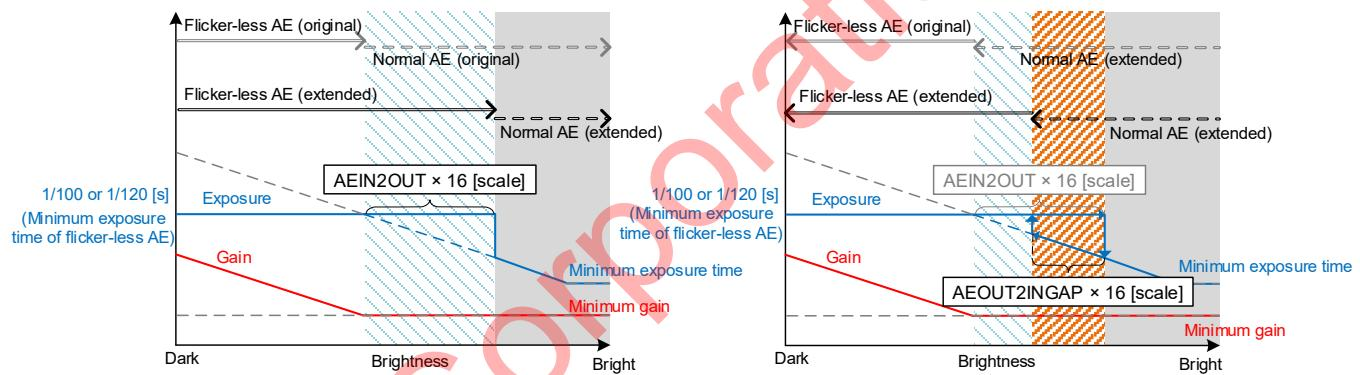

Figure 5-29 High Luminance Flickerless AE Function
- The threshold at which the control method returns from Normal AE to Flickerless AE can be adjusted by using the AEOUT2INGAP register. Refer to “**Figure 5-29**” regarding the relationship between this adjustment and the operational ranges of Normal AE and Flickerless AE.